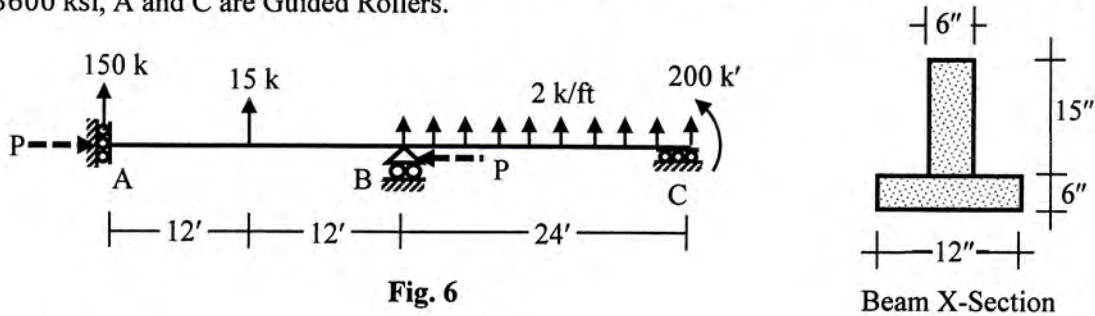

Fig. 6
6. Use Stiffness Method to calculate the unknown joint deflections and rotations of the beam shown in Fig.6, considering flexural deformations only with geometric nonlinearity. Given, $P = 200$ k, $E = 3600$ ksi, A and C are Guided Rollers.
9. Consider flexural deformations and geometric nonlinearity to calculate the load P required to cause buckling of the beam shown in Fig. 6. Given, $E = 40 \times 10^3 \frac{\text{k}}{\text{ft}^2}$.